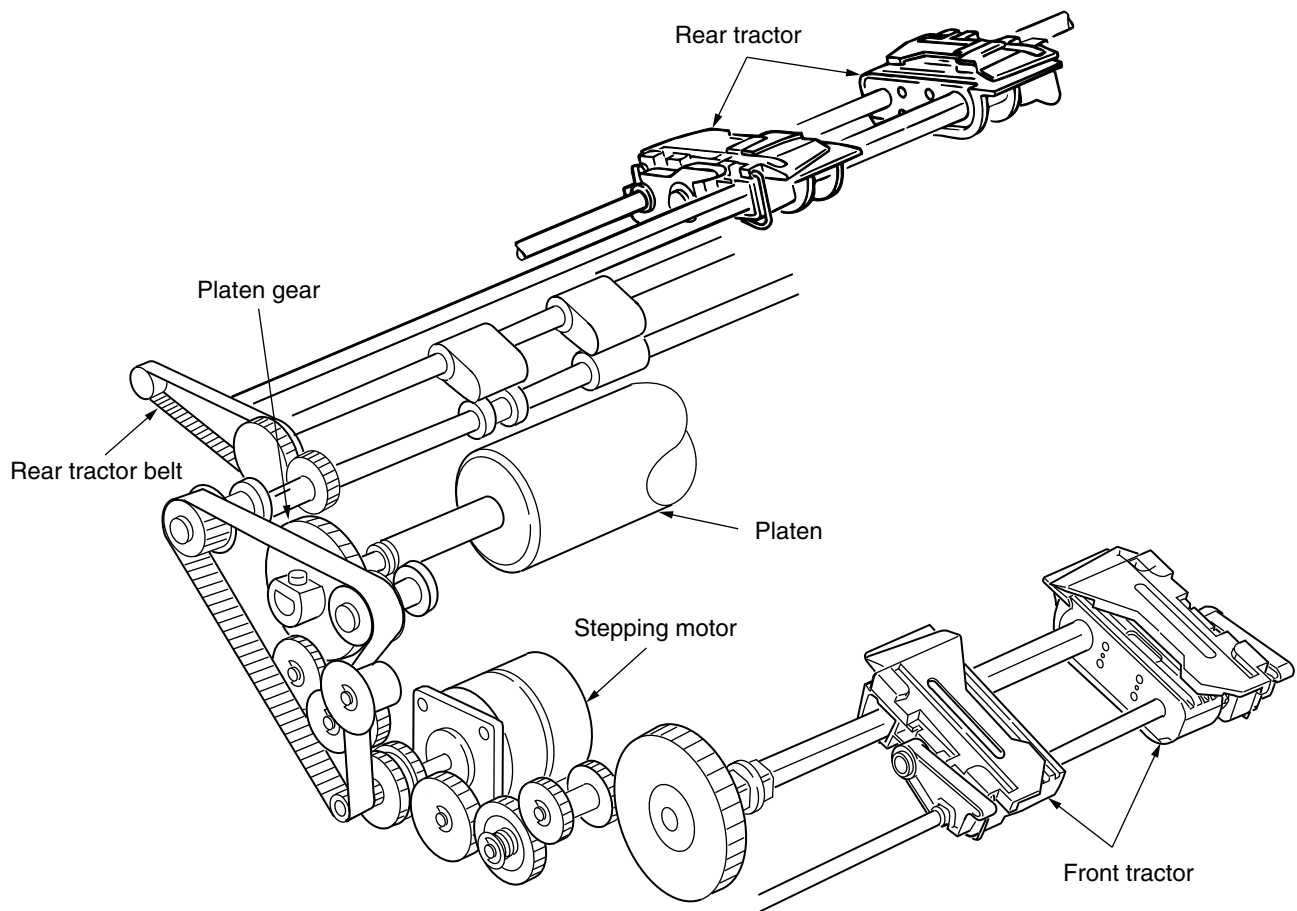

Figure 12-9 Continuous Drive Mechanism (Front Tractor)
12.3.5 Paper feed operation (See Figures 12-9, 12-10, 12-11)